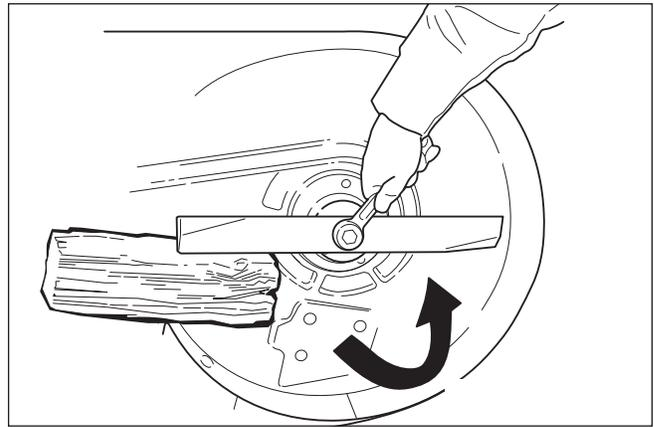

Figure 21. Loosening the Mower Blade for Removal
1. To remove the mower blade, wedge a wooden block between the mower blade and the mower deck housing to keep the blade from turning and remove the mower blade mounting bolt with a 15/16" wrench (Figure 21).